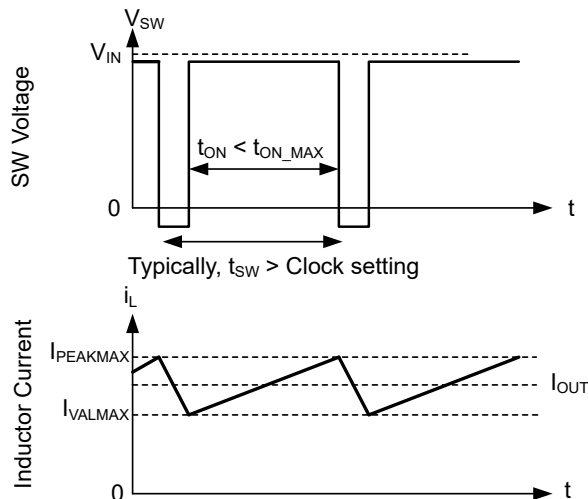

Figure 7-11. Current Limit Waveforms
When the low-side (LS) switch is turned on, the current going through it is also sensed and monitored. Like the high-side device, the low-side device has a turn-off commanded by the internal error amplifier loop. In the case of the low-side device, turn-off is prevented if the current exceeds this value, even if the oscillator normally starts a new switching cycle. Also like the high-side device, there is a limit on how high the turn-off current is allowed to be. This limit is called the low-side current limit, $I_{LS-LIMIT}$ in Figure 7-11. If the LS current limit is exceeded, the LS MOSFET stays on and the HS switch is not to be turned on. The LS switch is turned off after the LS current falls below this limit and the HS switch is turned on again as long as at least one clock period has passed because the last time the HS device has turned on.